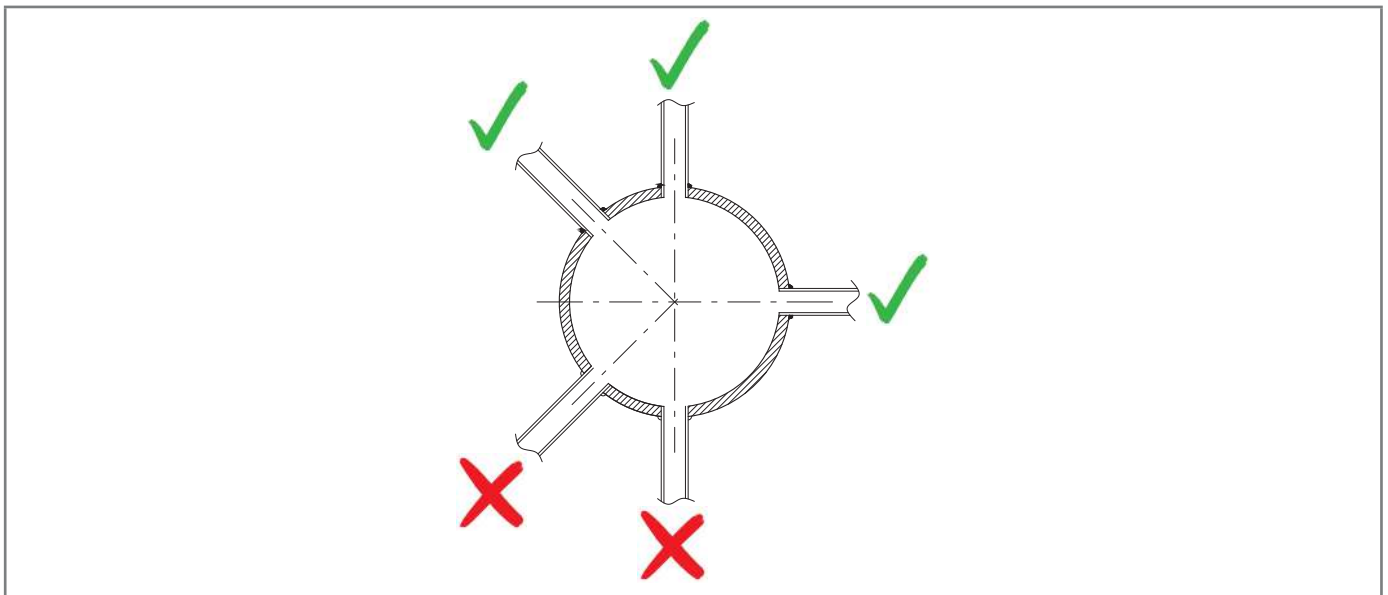

Fig. 6.17. Welded pipe connections
- the pneumatic connection couplings are always welded on the upper part or on the horizontal axis of the piping (refer to fig. 6.17);